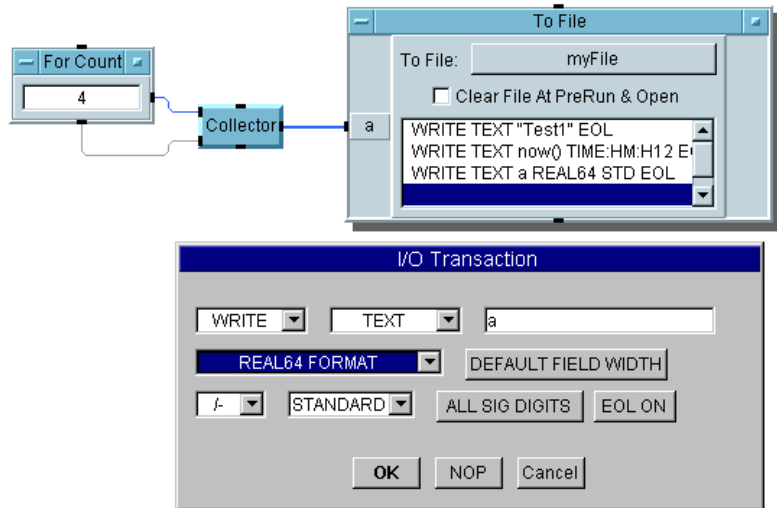

Figure 5-6. Storing Data Using the To File Object
- Connect the output from the Collector to the input `a` of To File. The program should now look like Figure 5-6. (The configured I/O Transaction box is also displayed.)